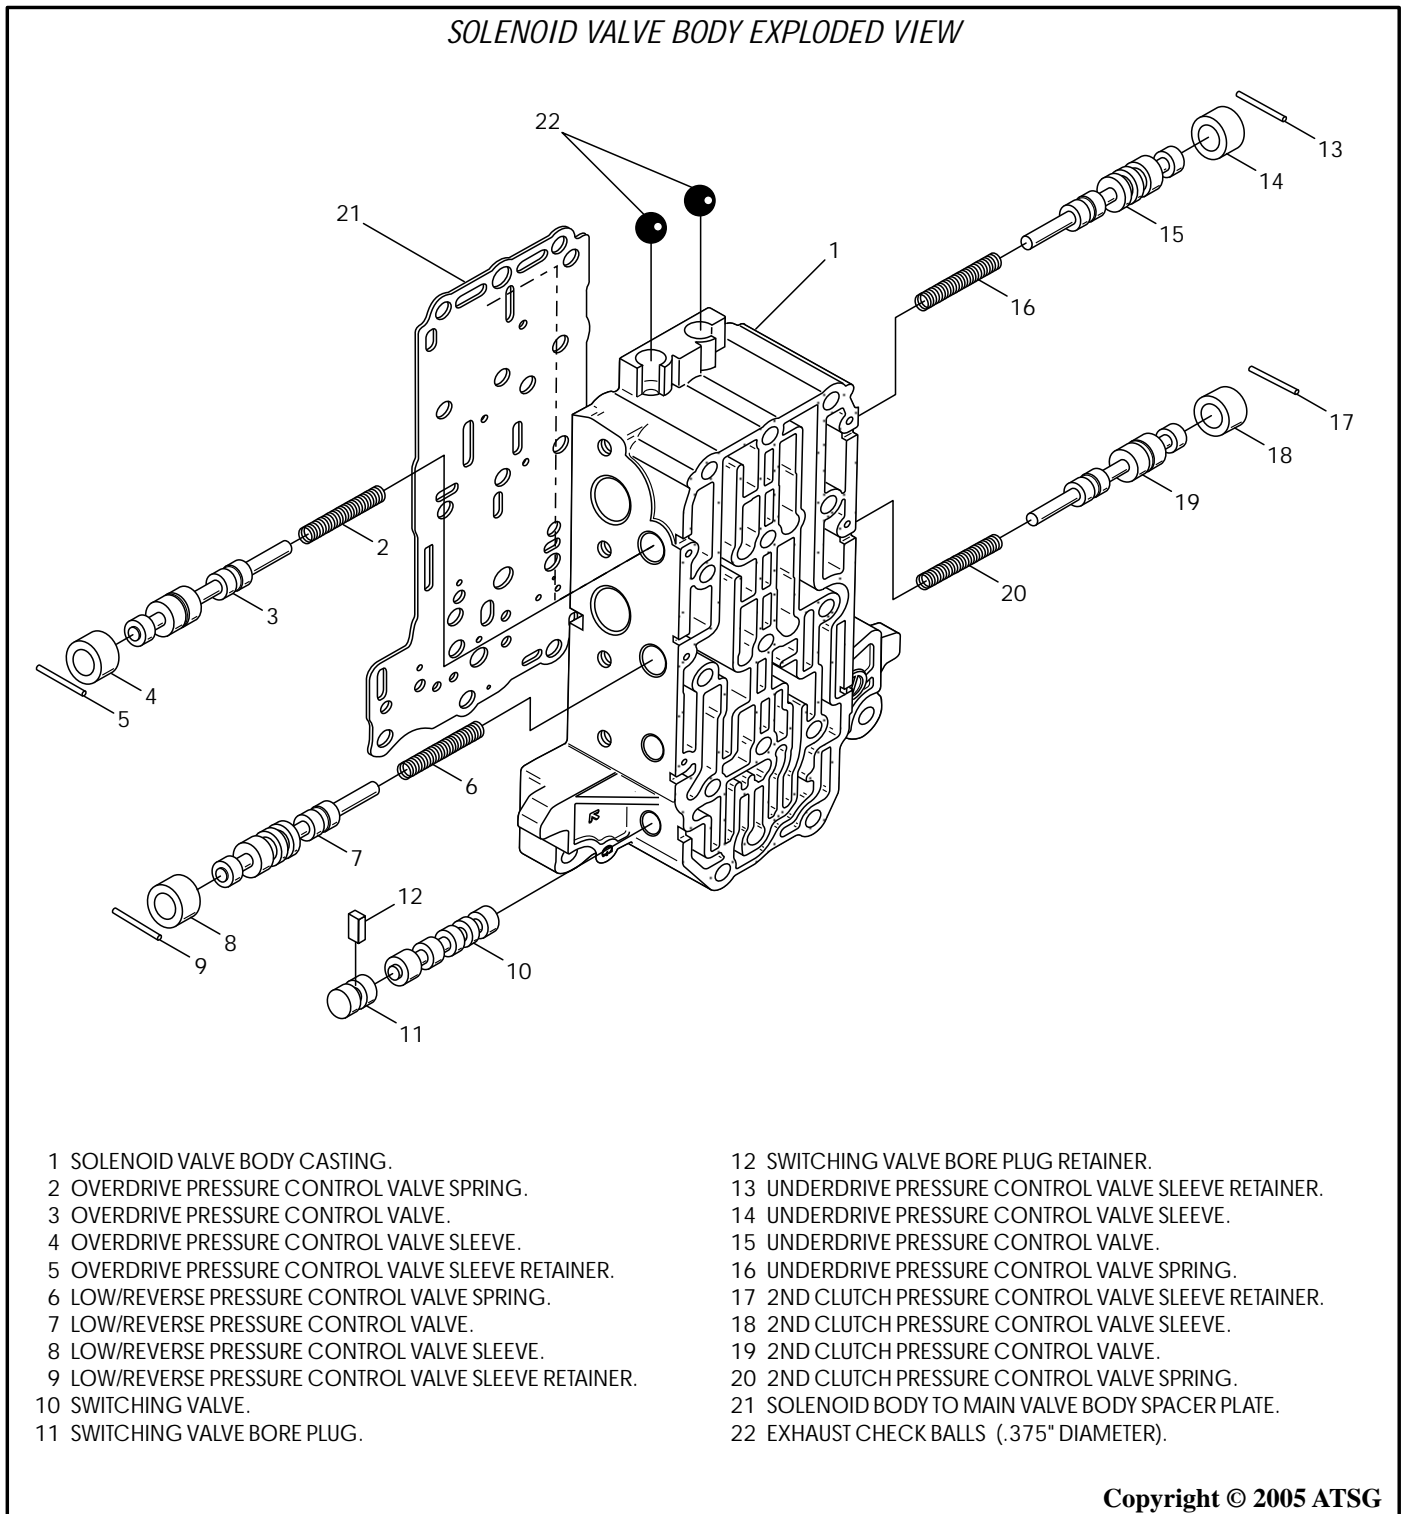

Figure 143
10. Disassemble solenoid valve body and place the valves, springs, retainers in appropriate trays exactly as they were removed (See Figure 143).
12. Assemble solenoid valve body parts *exactly*, as shown in Figure 143, and lube with ATF as they are installed.